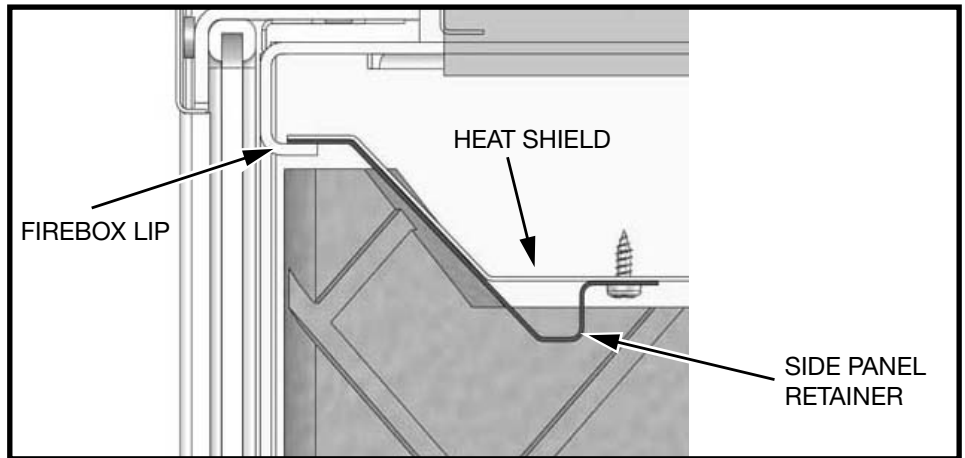
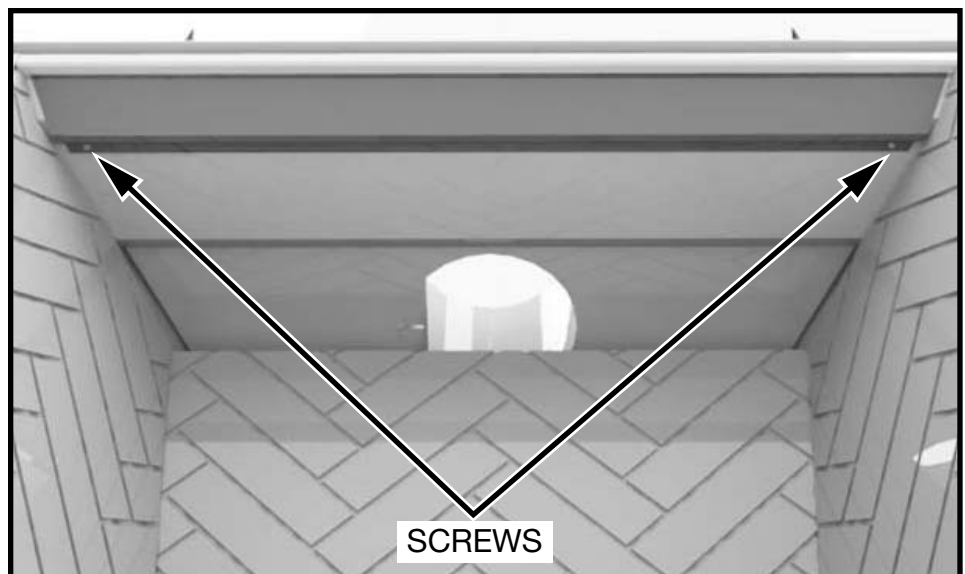

Figure 43: Side retainer.
Figure 44: Retainer panel screws location.
1. Remove the Side Panel Retainer located on the underside of the firebox heat shield (Figure 43). The retainer slips between the lip of the firebox and the heat shield and is retained in place by two screws (Figure 44).